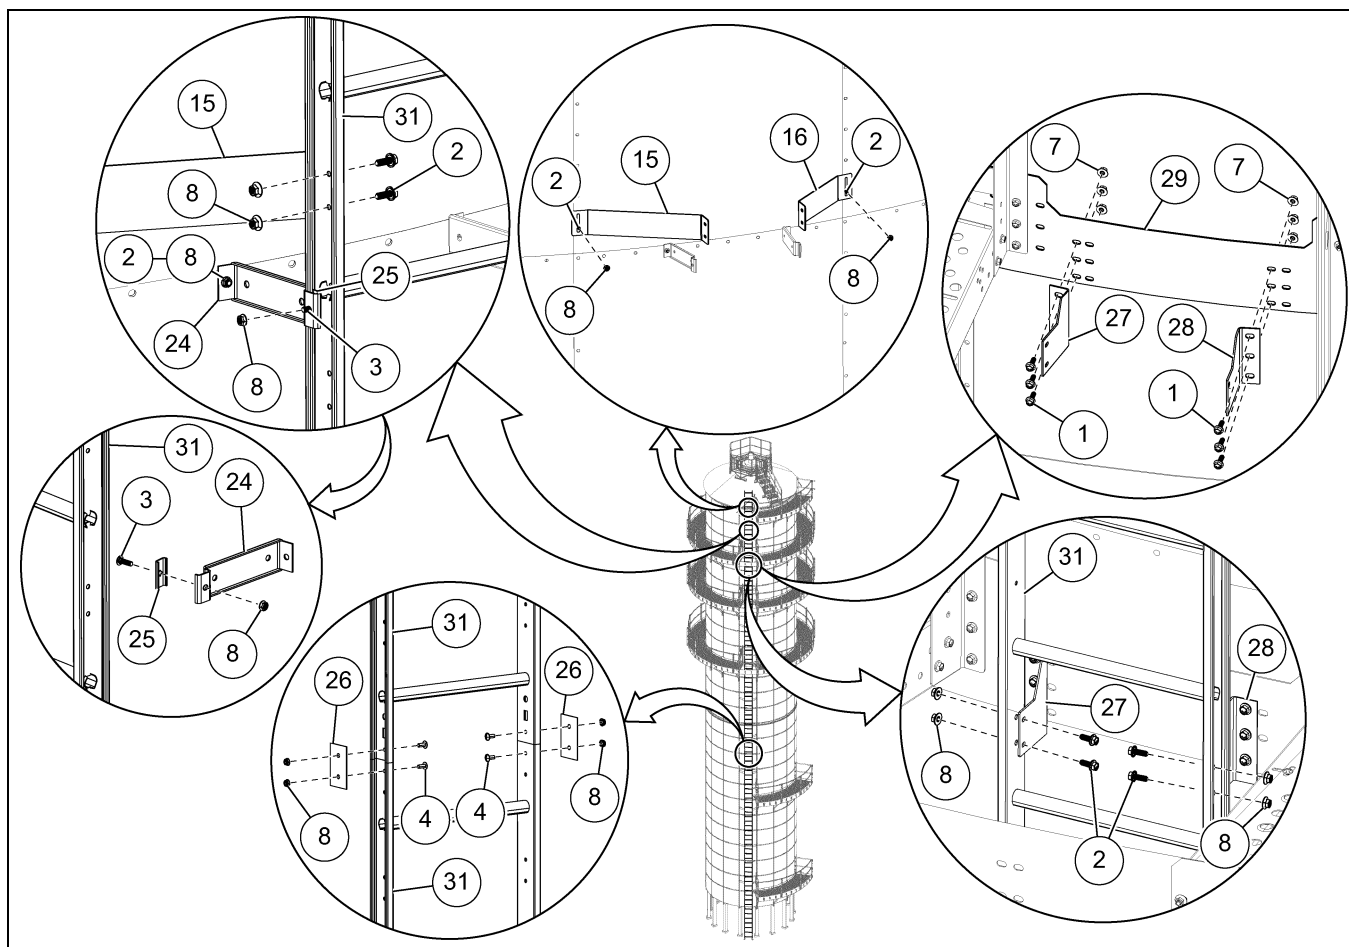

Figure 7G Installing the Ladder to the Dryer
1. Install one set of ladder stand-off brackets (24) where perforated sheets overlap using existing vertical seam bolt (2) and 5/16" flange nut (8).
**NOTE:** As a rule of thumb, make sure to use one set of ladder stand-off brackets (24) on every overlap, unless otherwise shown.
2. Install the ladder brace brackets (15 and 16) to the vertical channels using existing vertical seam bolt (2) and 5/16" flange nut (8).
3. Install the ladder section (31) to the ladder brace brackets (15 and 16) using 5/16" x 1" flange bolts (2) and 5/16" flange nuts (8).
4. Slide the ladder wedge (25) along the ladder rail (31) and install it to the ladder stand-off bracket (24) using 5/16" x 1" carriage bolts (3) and 5/16" flange nuts (8).
5. At required places, connect the ladder sections (31) with two splices (26) using 5/16" x 1" flange bolt (4) and 5/16" flange nut (8). **NOTE:** Install bolts (4) with bolt head on the inside of the ladder (31).
6. At catwalks, install the left and right ladder toe board brackets (27 and 28) to the inner toe board (29) using 3/8" x 1" flange bolts (1) and 3/8" flange nuts (7). (See Figure 7G.)
**NOTE:** Use the left set of holes below the notch on the inner toe board (29) to install the ladder toe board brackets (27 and 28).